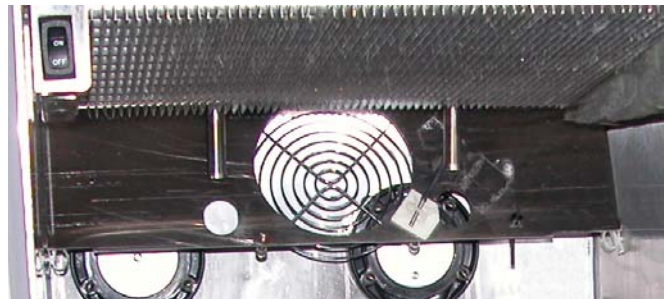

Figure 6-7 Cab Fan Shroud
8. Remove the fan shroud by tilting forward and pulling down (Refer to Figure 6-7).